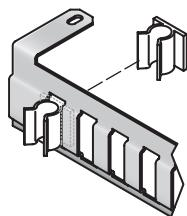

Figure 14: Installing the cable clips into the cable clamp
1. If they are not already installed, install the cable clips into each cable clamp starting with the first position from the left edge of the clamp, as shown in Figure 14.